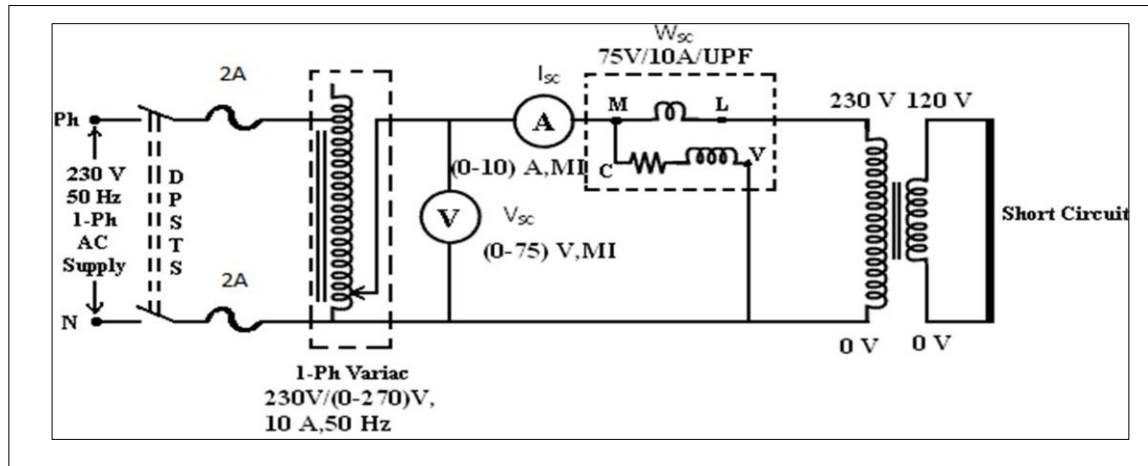

Fig 3.2: Circuit diagram for short circuit test
1. Connect the circuit as per fig 3.2.